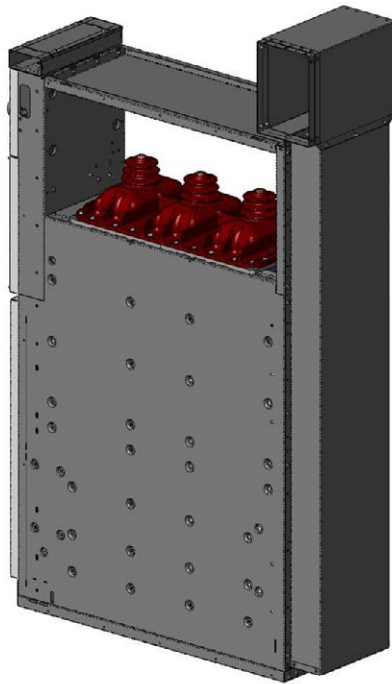

Figure 77. Installed gas vent duct
d) Mount the horizontal duct onto the vertical duct. Insert the screws and nuts in it as shown in Figure 77 (4 Torx M6x12 screws, support bar and 2 M6 hexagonal nuts).